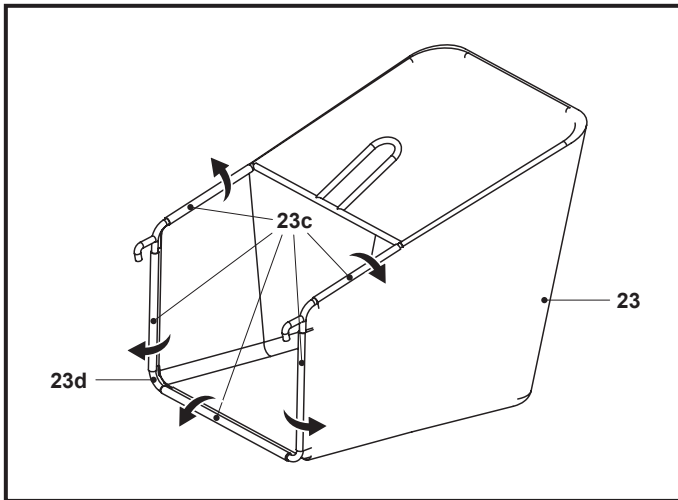

Fig. 4
1. Clip the five rubber clips (23c) onto the supporting rod (23d) of the grass catcher (23) (Fig. 4) if not pre-assembled at delivery status.
2. The grass catcher (23) is now ready for use.